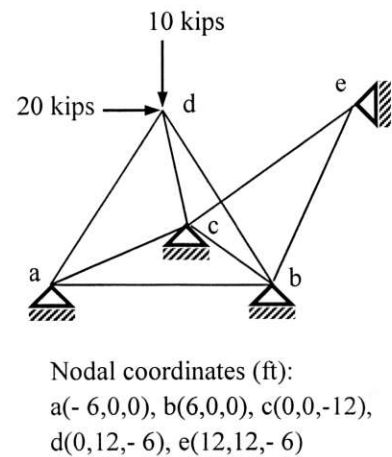

**Figure 2**
2. Calculate the joint rotations at C of the grid loaded as shown in **Figure 2** if joint C Settled 2.5 mm [Given:  $EI = 16,500 \text{ kN-m}^2$ ,  $GJ = 12,500 \text{ kN-m}^2$ ].